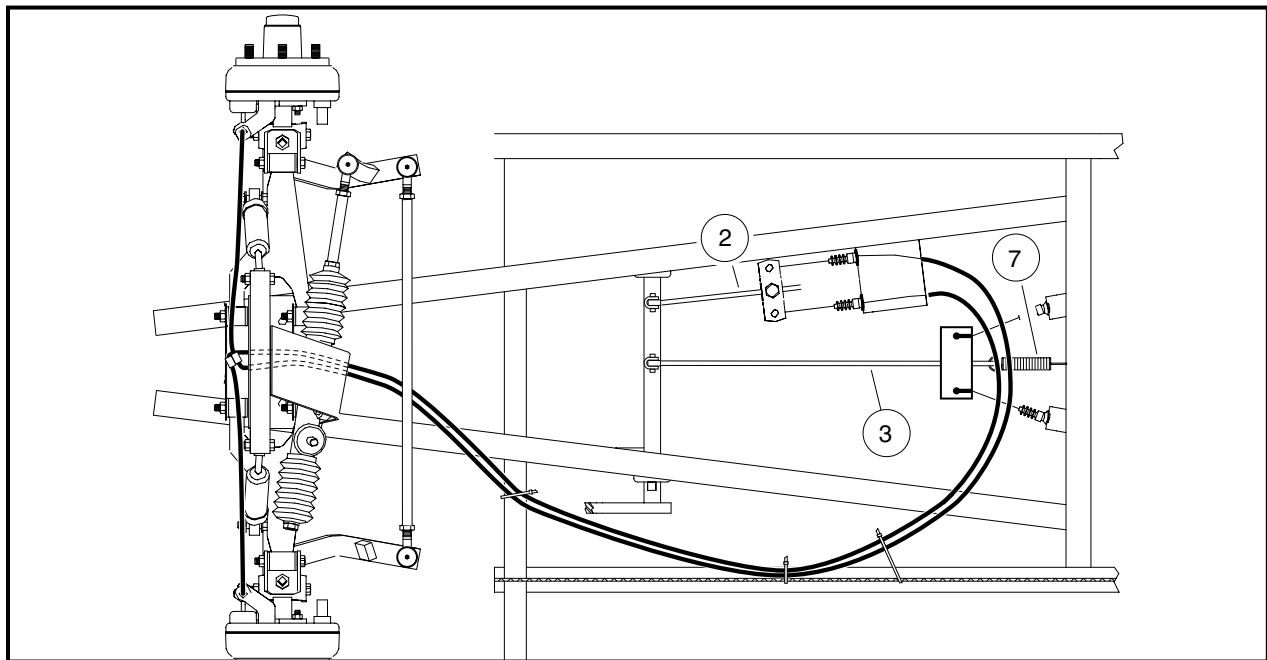

Figure 6-37 Front Brake Cable Routing
3. Route cable towards the rear of vehicle and over to the driver-side I-beam and secure with wire ties so that the brake cable does not touch the brake equalizer (Figure 6-37, Page 6-22).
4. Route cable along I-beam towards front of the vehicle and secure as shown (**Figure 6-37, Page 6-22**). Route cable through hole in I-beam crossmember.